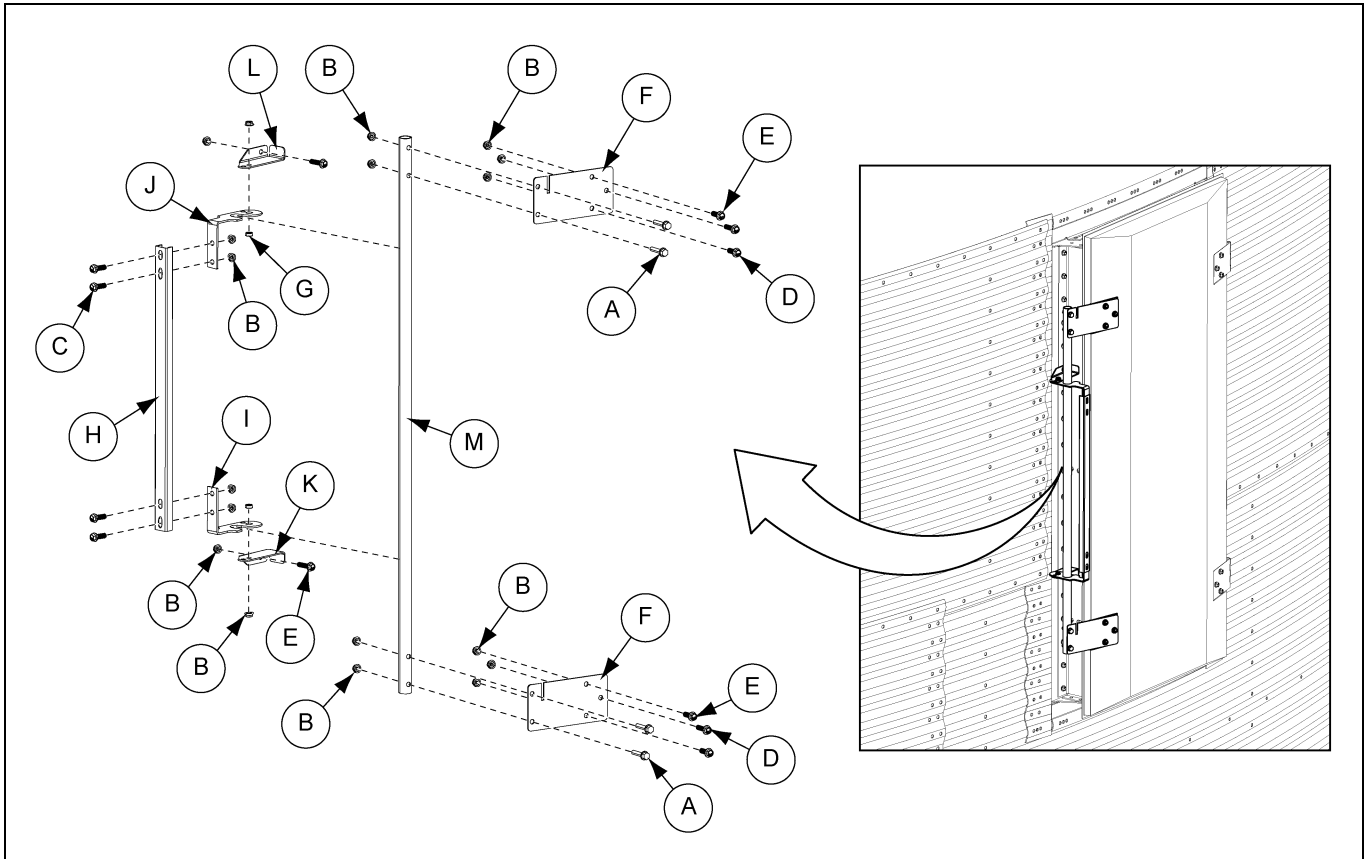

Figure 7E Two Ring Door Latch
1. Install outer door latch assembly (WD-6289) to the door frame lining up to the door latch mount (L) with the 6th bolt from the top and door latch mount (K) with the 6th bolt from the bottom.
2. Install the door latch rod (M) to the door latch mount (F). (See Figure 7E.)